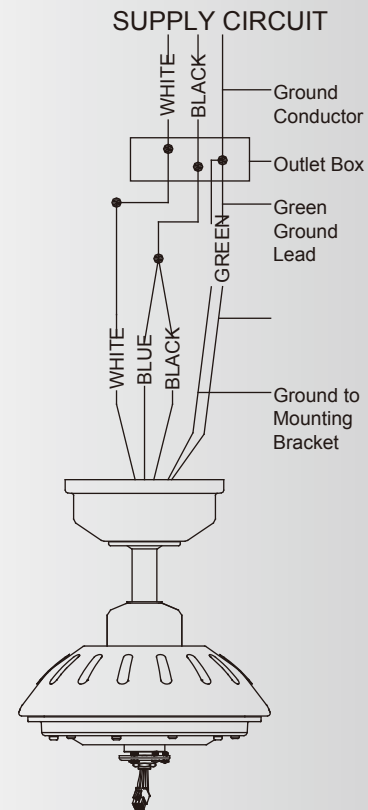

Fig. 12
**Step 1.** Connect the fan supply BLACK wire and fan light supply BLUE wire to the BLACK household supply wire as shown in Fig. 12.
**Step 2.** Connect the fan neutral WHITE wire to the household neutral WHITE wire as shown in Fig. 12.
**Step 3.** Connect GROUND (GREEN) wires from mounting bracket and downrod ball, to GROUND (GREEN) or BARE (COPPER) from house. (Fig. 12)